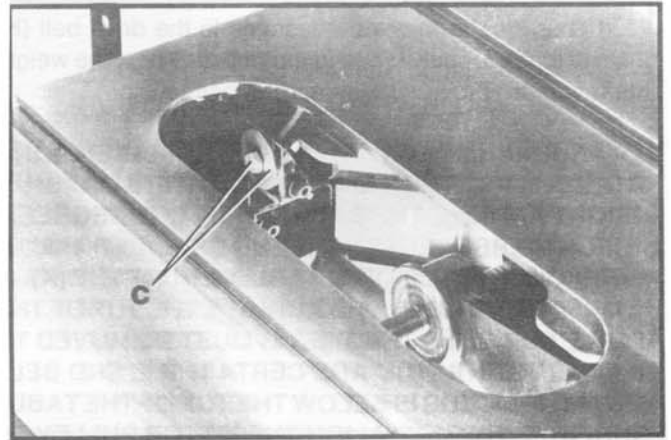

Fig. 21
3. Remove screw and large washer (C) Fig. 21, from the inside splitter mounting bracket.